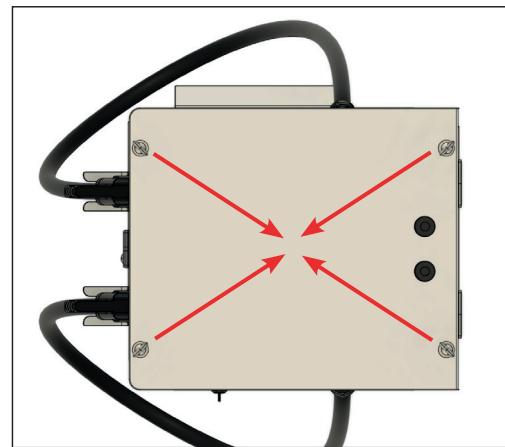
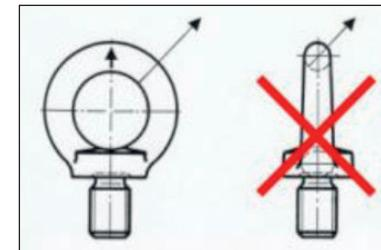

Fig. 12: alignment of eyebolts
Fig. 13: side-pull of eyebolts
- Side-pull must not be used; see Fig. 12 and Fig. 13.